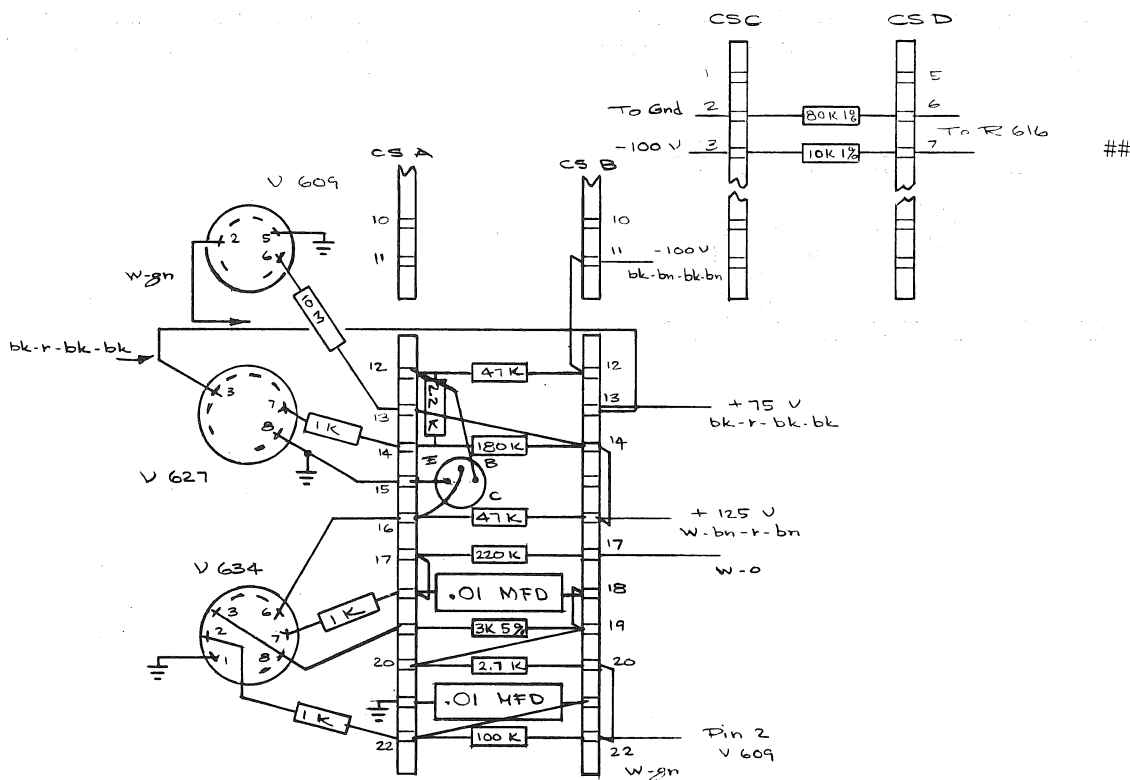

Fig. 3
- ( ) 1. Locate the ceramic strips supporting the components associated with the -100 v supply in Fig. 3, and note the numbering arrangement.
NOTE: Fig. 3 shows the completed modification.
NOTE: Refer to Fig. 3 while performing steps 4 through 18.